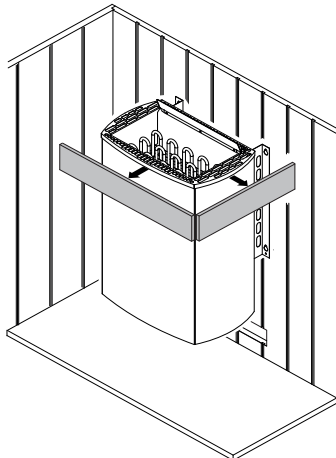

Fig. 2
- The height of the safety guard rail for the heater must approximately correspond to the front height of the heater (Fig. 2).